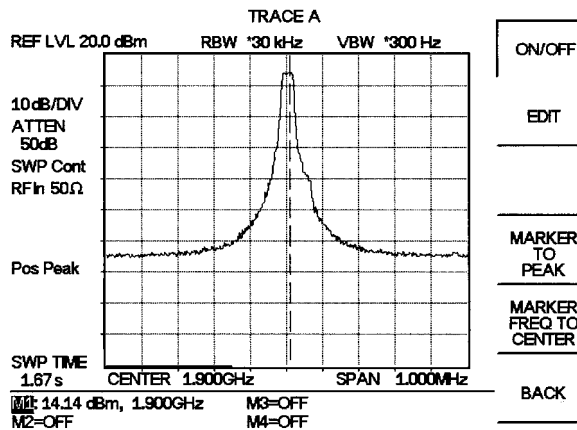

Figure 4-5. Measurement of Two Signals Having Unequal Amplitudes
**Step 7.** Change the resolution bandwidth to 30 kHz. Figure 4-5 shows the results after changing the RBW using a signal combiner/splitter with a loss of 6 dB.